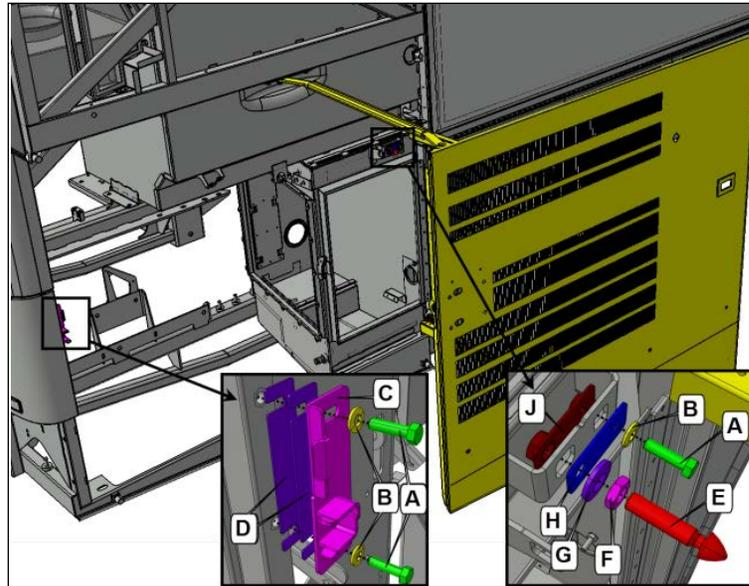

FIGURE 10
9. Install strike plate C and pin E centered in the available adjustment position provided by respective slotted holes (FIGURE 10). The components should be snug but not tight so that they can move when the door will be closed later on in this procedure.